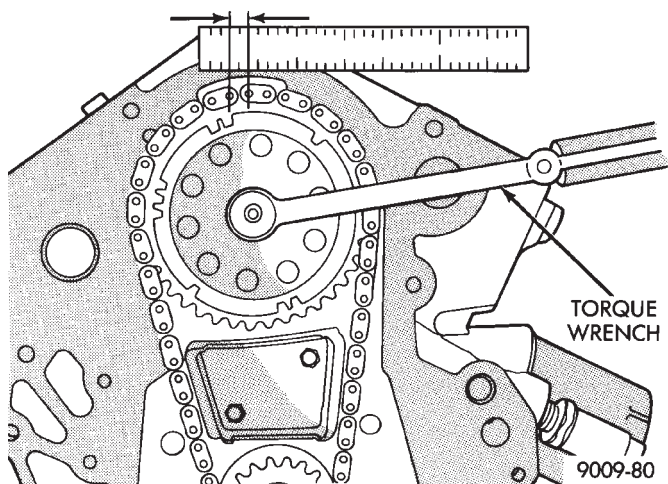
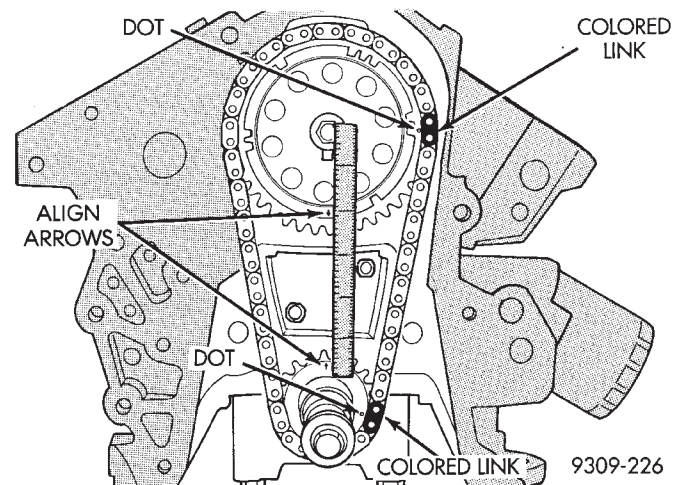
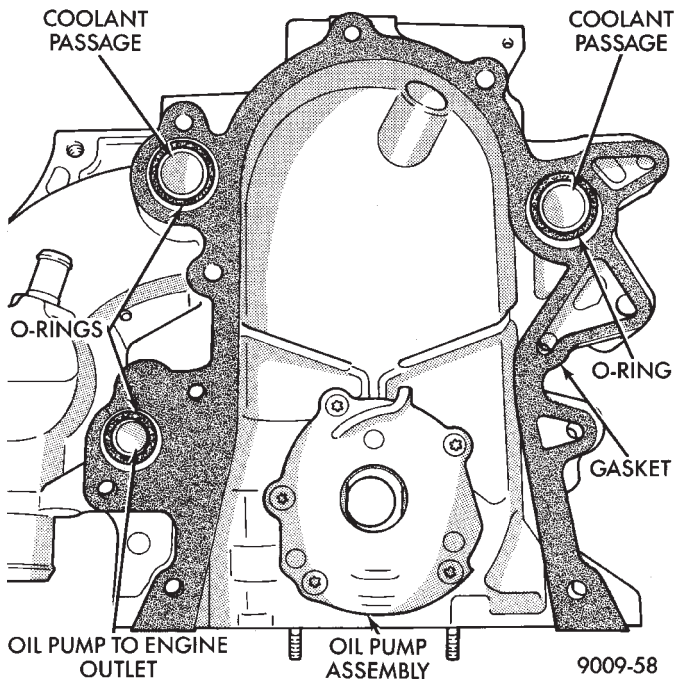

Fig. 3 Measuring Timing Chain Wear and Stretch
Fig. 4 Alignment of Timing Marks
Fig. 5 Timing Chain Case Cover Gaskets and O-Rings
(1) Place a scale next to timing chain so that any movement of chain may be measured.
(2) Place a torque wrench and socket on camshaft sprocket attaching bolt and apply torque in direction of crankshaft rotation to take up slack; 41 N•m (30 ft. lb.) with cylinder head installed or 20 N•m (15 ft. lb.) with cylinder heads removed. **With a torque applied to the camshaft sprocket bolt, crankshaft should not be permitted to move. It may be necessary to block crankshaft to prevent rotation.**
(3) Holding a scale even, with dimension reading as shown (Fig. 3), along edge of chain links. Apply torque in the reverse direction to 41 N•m (30 ft. lbs.) with cylinder heads installed, or 20 N•m (15 ft. lbs.) with cylinder heads removed. Check amount of chain movement (Fig. 3).
(4) Install a new timing chain, if its movement exceeds 3.175mm (1/8 inch) (Fig. 3).
(5) If chain is not satisfactory, remove camshaft sprocket attaching bolt, and remove timing chain with camshaft sprocket.
(6) Using a suitable puller remove the crankshaft sprocket. Be careful not to damage the crankshaft surface.
(7) Position a new crankshaft sprocket on the shaft, install sprocket with suitable tool and mallet. Be sure sprocket is seated into position.
(8) Rotate crankshaft so the timing arrow is to the 12 O'clock position.
(9) Place timing chain around camshaft sprocket and place the timing arrow to the 6 O'clock position.
(10) Align the dark colored links with the dot on the camshaft sprocket, place timing chain around crankshaft sprocket with the dark colored link lined up with the dot on sprocket and install camshaft sprocket into position.
(11) Using straight edge to check alignment of timing arrows (Fig. 4).
(12) Install camshaft bolt and washer. Tighten to 54 N•m (40 ft. lbs.).
(13) Rotate crankshaft 2 revolutions. Timing arrows should line up. If timing arrows do not line up remove cam sprocket and realign.
(14) Check camshaft endplay. With new thrust plate specification is .0127 to .304 mm (.005 to .012 inches.). Old thrust plate specification is .31 mm (.012 inch.) maximum. If not within these limits install new thrust plate.
(15) Install timing chain snubber. Tighten retaining screws to 12 N•m (105 in. lbs.).
(1) Be sure mating surfaces of chain case cover and cylinder block are clean and free from burrs. Crankshaft oil seal must be removed to insure correct oil pump engagement.
(2) Use a new cover gasket, O-rings. (Fig. 5).
(3) Rotate crankshaft so that the oil pump drive flats are vertical.
(4) Position oil pump inner rotor so the mating flats are in the same position as the crankshaft drive flats (Fig. 5).
(5) Install cover onto crankshaft. Make sure the oil pump is engaged on the crankshaft correctly or severe damage may result.
(6) Install chain case cover screws (Fig. 3). Snug the two bottom screws and the top center screw. Ensure the cover is seated to the block then torque all other screws to 27 N•m (20 ft. lbs.).